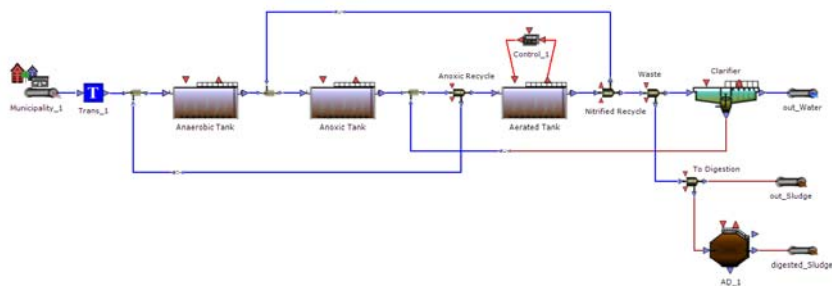

Figure 13.2 Final layout for the PWM\_SA experiment
- Modify the template UCT layout, as follows - the final layout is shown in Figure 13.2